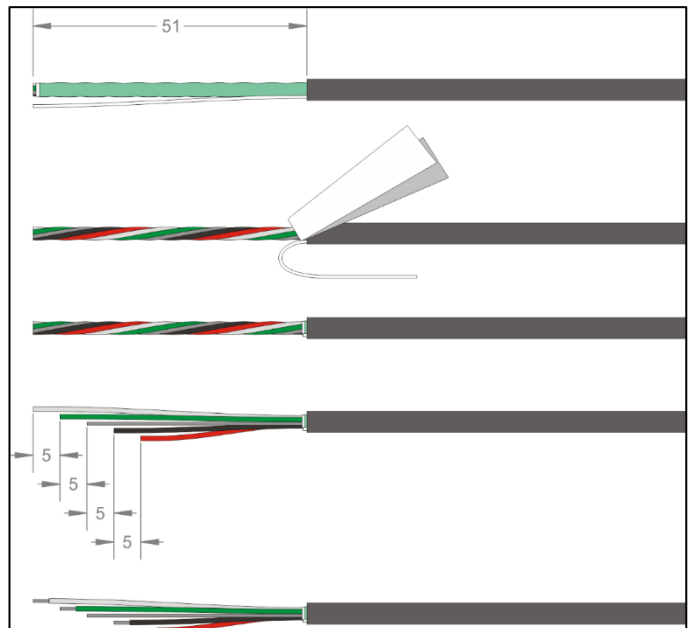

Figure 12: Direct and remote sensor probe wire preparation
- 2) Prepare the sensor probe's cable end as shown in *Figure 12: Direct and remote sensor probe wire preparation*. Strip the outer jacket back 2" or 51mm, remove the fabric braid, foil and cloth wrapping. It is recommended to cut the wire lengths at 5mm decrements starting with the white wire, followed by green, shield, black and ending with the red wire. Strip the jackets 3mm to expose the inner conductors. Do not attempt to strip the shield wire as it has no jacket.
- 2) Prepare the sensor probe's cable end as shown in *Figure 12: Direct and remote sensor probe wire preparation*. Strip the outer jacket back 2" or 51mm, remove the fabric braid, foil and cloth wrapping. It is recommended to cut the wire lengths at 5mm decrements starting with the white wire, followed by green, shield, black and ending with the red wire. Strip the jackets 3mm to expose inner conductors. Do not attempt to strip the shield wire as it has no jacket.